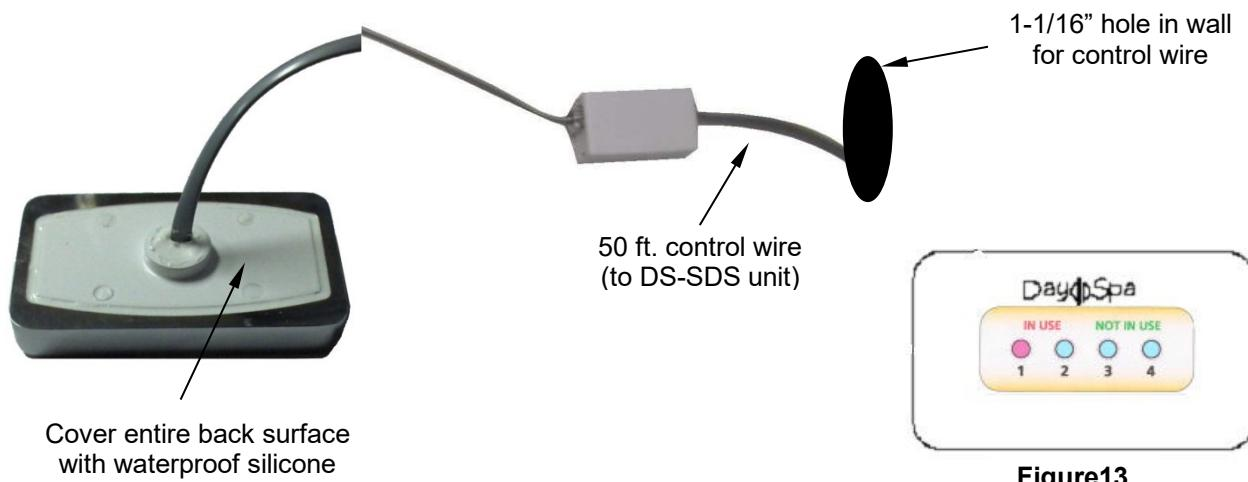

Figure13
1. The Day Spa Sentinel (**Figure 13**) can be located anywhere within 100 ft of the Steam Distribution System (DS-SDS).
**(Figure 13). Let dry for 24 hours before using.**